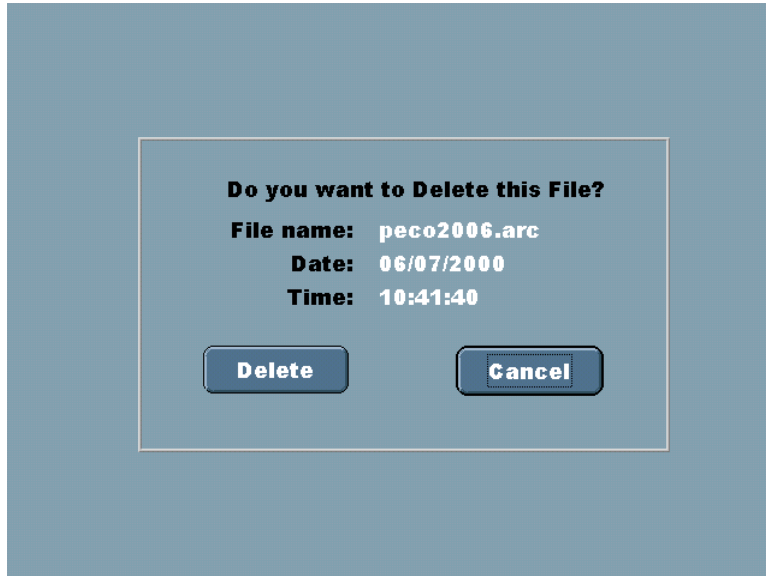

Figure 6-10 Delete screen
- To go to the Delete screen (Fig. 6-10) and delete the selected file from memory, press **Delete**.
Use the Delete screen (Figure 6-10) to delete selected files.